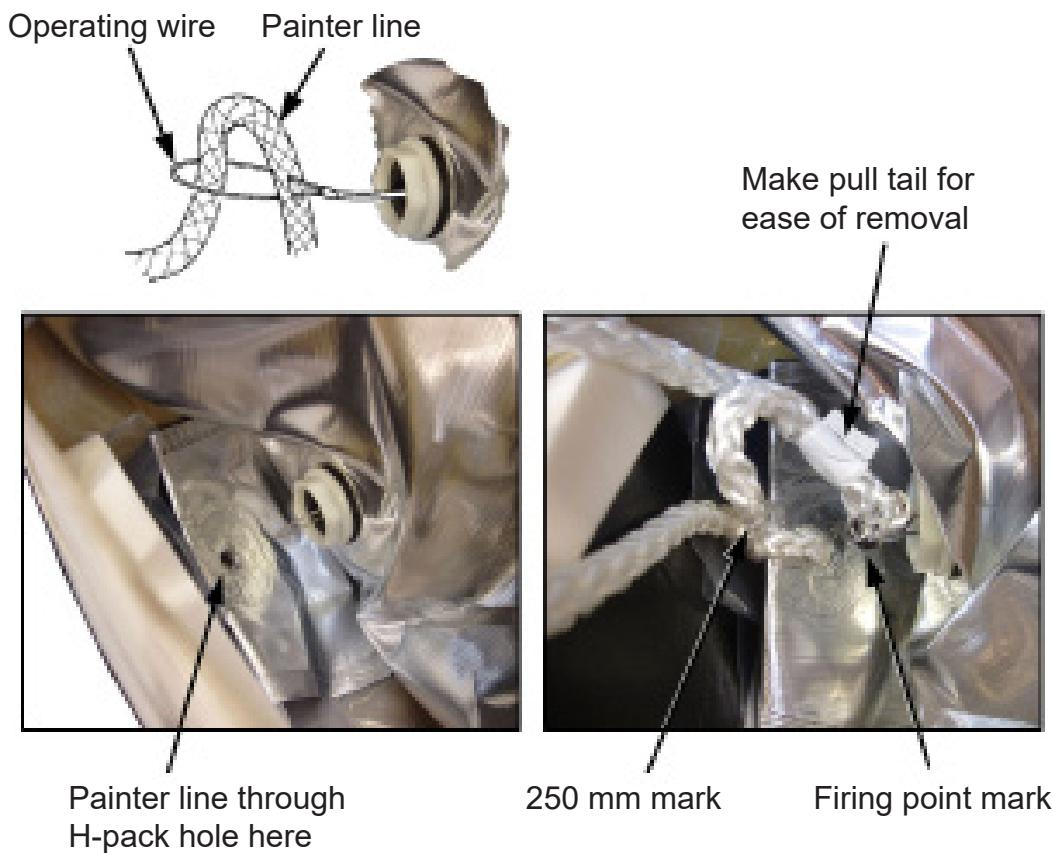

FIGURE A7-14
- 2.25 Put the actuation cable of the operating mechanism through the painter line at the firing point mark. Thread the remaining painter line back through the actuation cable. Refer to FIGURE A7-14.
- 2.26 Insert painter line through the hole in the H-Pack. Pull it through until the 250 mm mark has been reached. Refer to FIGURE A7-14. Tie the painter line off at this point, by splitting the cord and inserting the line through twice, then pull tight.
- 2.27 Wind two turns of white tape around the painter cord. Refer to FIGURE A7-14. Fold the end of the tape over on itself to create a pull tail. This will make it easy to remove the tape at the next service.
- 2.28 Make sure that the painter cord is firmly attached to the operating head by lightly pulling on the cord. Refer to FIGURE A7-14.